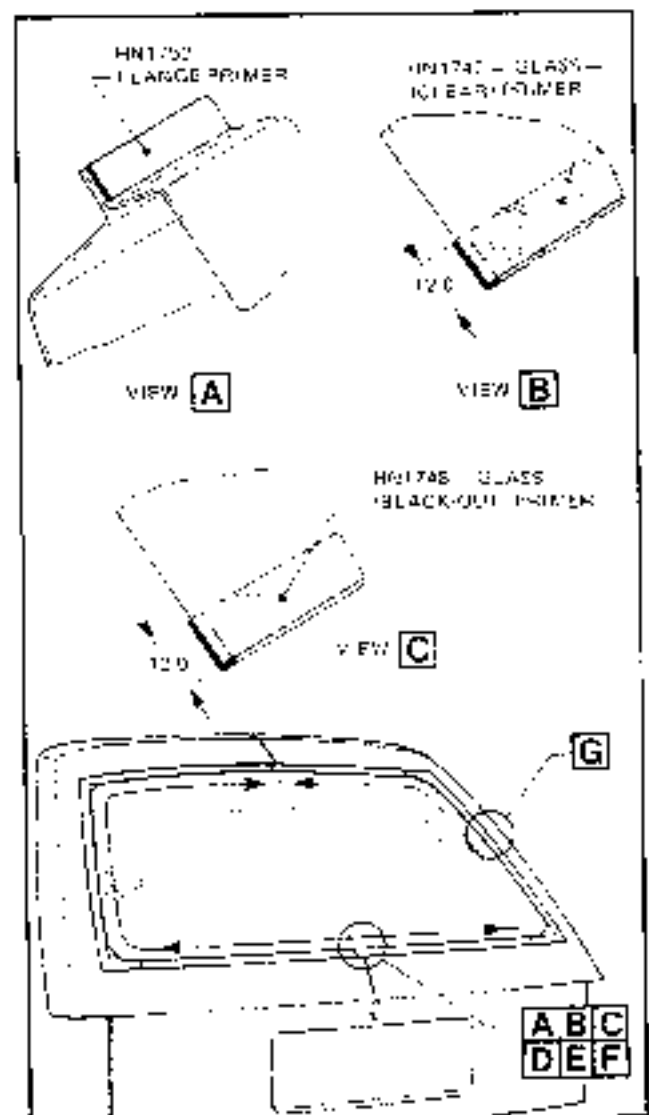

Figure 1A-35
2. Prime the edge of glass and on the glass bonding surface 12 mm from the edge with glass primer - clear (HN1747). This is a wipe on/wipe off operation (refer View B, Fig. 1A-35).
3. Prime the edge of glass and on the glass bonding surface 7 mm from the edge with glass primer - black (HN1748) and allow to dry for 15 minutes (refer View C, Fig. 1A-35).
4. Apply an even bead of urethane adhesive (HN1749) 9.0 mm x 7.0 mm to blading flange as shown in View B, Fig. 1A-35 (using nozzle cut as shown in View C, Fig. 1A-36).